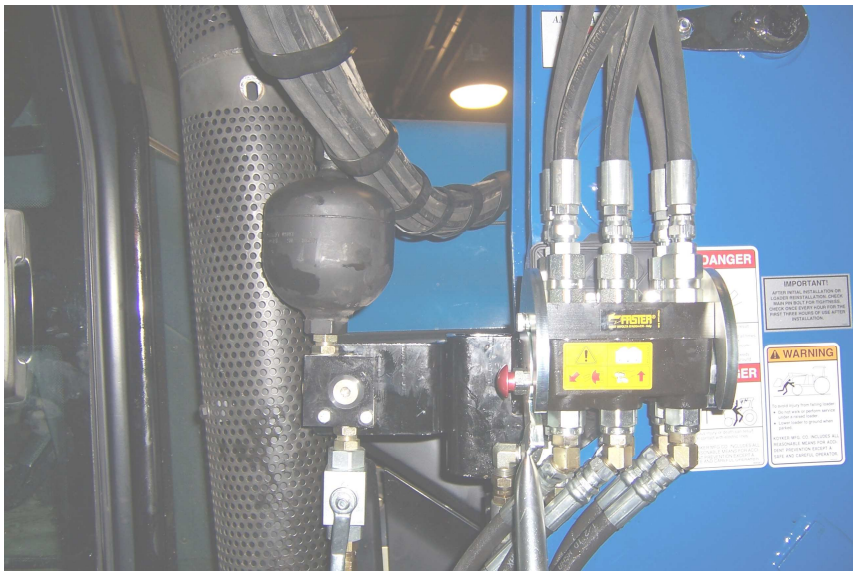

Fig 1-7
11. Now install the mid-mount coupler plate (Part #5) with three 3/8" x 1 1/4" HH cap crews and flange nuts (Part #23 & 25) and attach the multi coupler to this bracket with four 8MM x 1.25P x 25MM HHC capscrews and 3/8" lock washers (Part #24 & 32). **See in Fig. 1-7.**
13. Install the straight adapters (Part #11) and 72" hoses (Part #20) to the male end of multi coupler (Part #3). Attach the other end of the hoses to the steel oil lines on the loader frame. Then couple mid-mount coupler together. Refer to the top view of the working port diagram and the loader manual to determine the function of the port. **TIGHTEN ALL THE CONNECTIONS SECURELY! See in Fig. 1-7.**